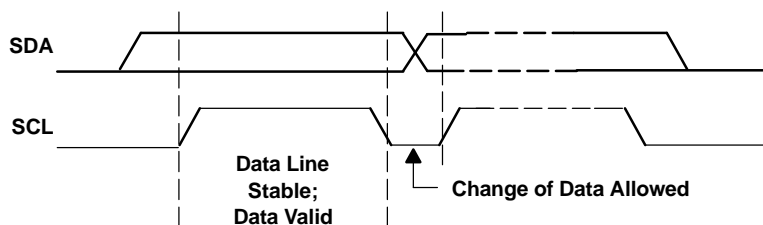
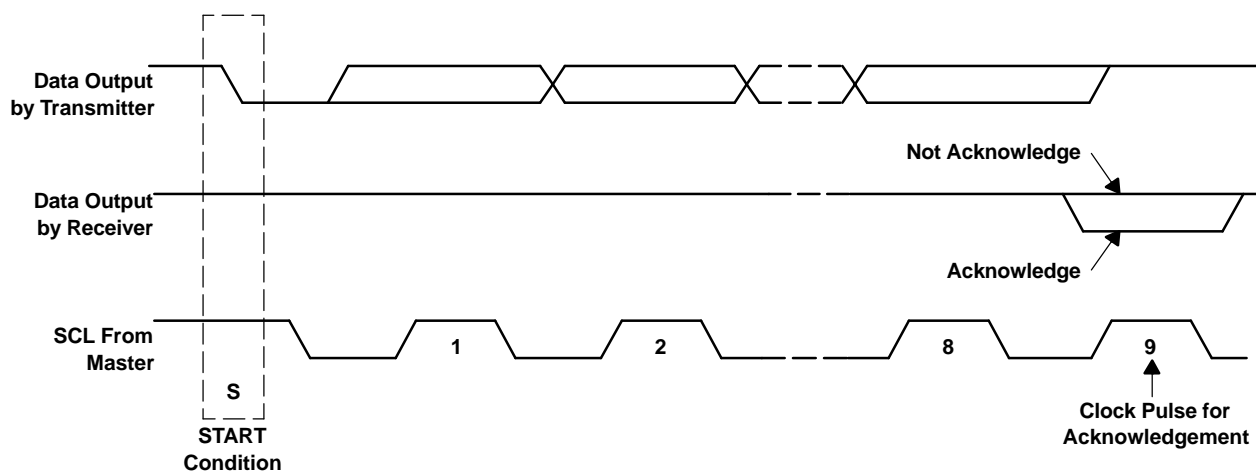

Figure 48. Bit Transfer on the I²C Bus
Figure 49. Acknowledge on the I²C Bus
- The master then generates the SCL pulses, and transmits the 7-bit address and the *read/write direction bit* R/\overline{W} on the SDA line. During all transmissions, the master ensures that data is *valid*. A *valid data condition* requires the SDA line to be stable during the entire high period of the clock pulse (see Figure 48). All devices recognize the address sent by the master and compare it to their internal fixed addresses. Only the slave device with a matching address generates an *acknowledge* (see Figure 49) by pulling the SDA line low during the entire high period of the 9th SCL cycle. Upon detecting this acknowledge, the master knows that communication link with a slave has been established.